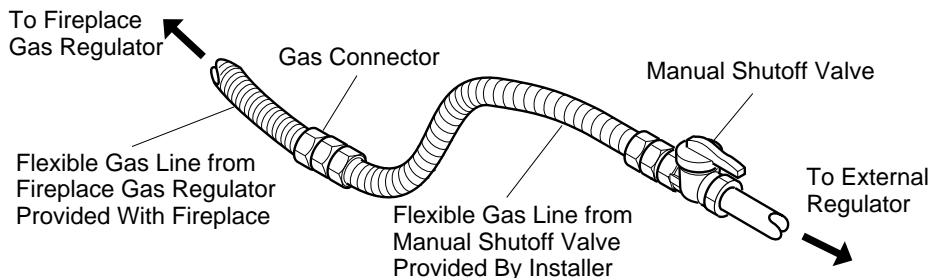

Figure 19 - Attaching Flexible Gas Lines Together
NOTICE: Most building codes do not permit concealed gas connections. A flexible gas line is provided to allow accessibility from the fireplace (see Figure 19). The flexible gas supply line connection to the manual shutoff valve should be accessible.
4. Apply pipe joint sealant lightly to male threads of gas connector attached to flexible gas line (see Figure 19). Connect flexible gas line to flexible gas line attached to gas regulator of fireplace (see Figure 19).